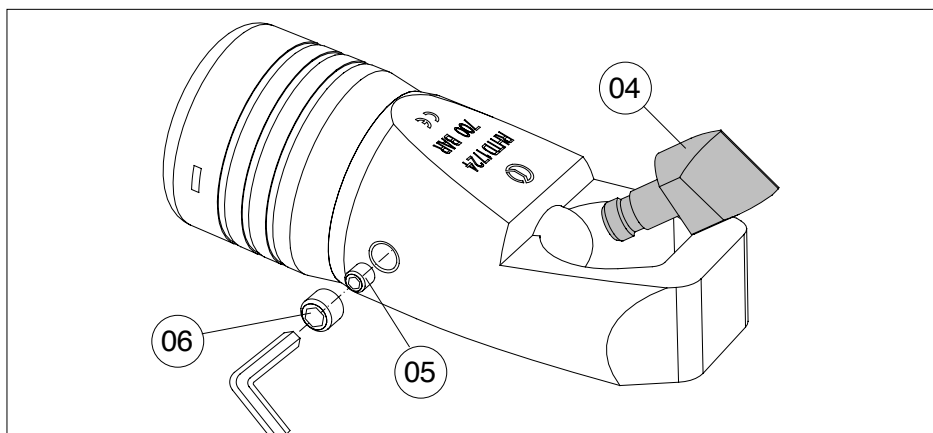

FIG. 3 BLADE CHANGING - CHANGEMENT DE LA LAME - MESSERWECHSEL
### 4. BLADE CHANGING (Ref. to Fig. 3)
- Make sure that the ram (14) is completely retracted. If this is not the case follow the instructions described in § 2.4.
- With a 5 mm Allen key, remove grub screw (06).
- With a 2.5 mm Allen key, slacken grub screw (05) until the blade (04) is free.
- Fully insert the new blade. **Ensure that the short side of the blade, is positioned at the front of the head as illustrated in Fig. 3.**
- Fully tighten grub screw (05) and fit the security grub screw (06).